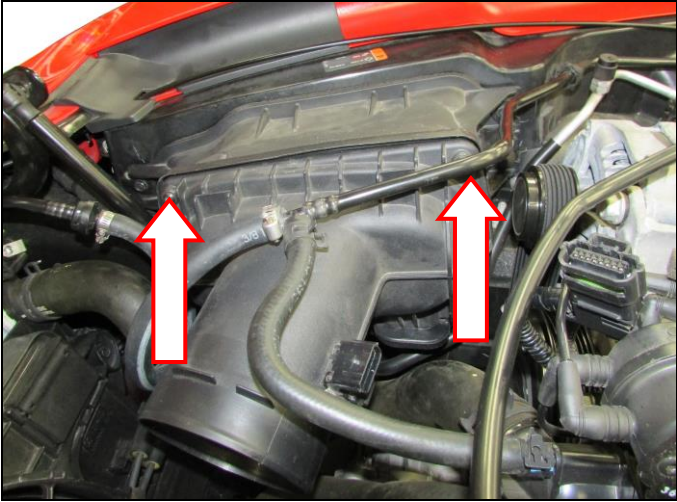

Figure 3
- Loosen both (Torx 25) screws on the factory plastic housing section and remove that half, and the factory air filter (**Figure 3**).